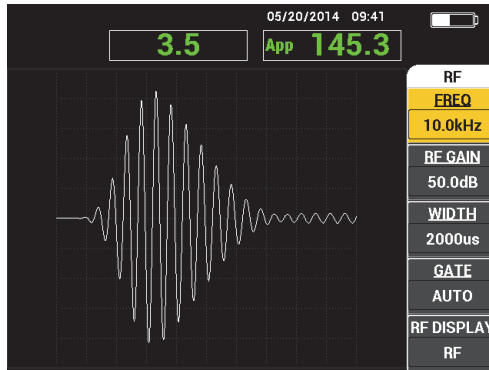

Figure 5-3 The RF DISPLAY
The pitch-catch (PC) mode RF DISPLAY is similar to that of the impulse mode. However, the data displayed is the raw amplified signal from the probe, and this data is not processed by the instrument (see Figure 5-3 on page 81).